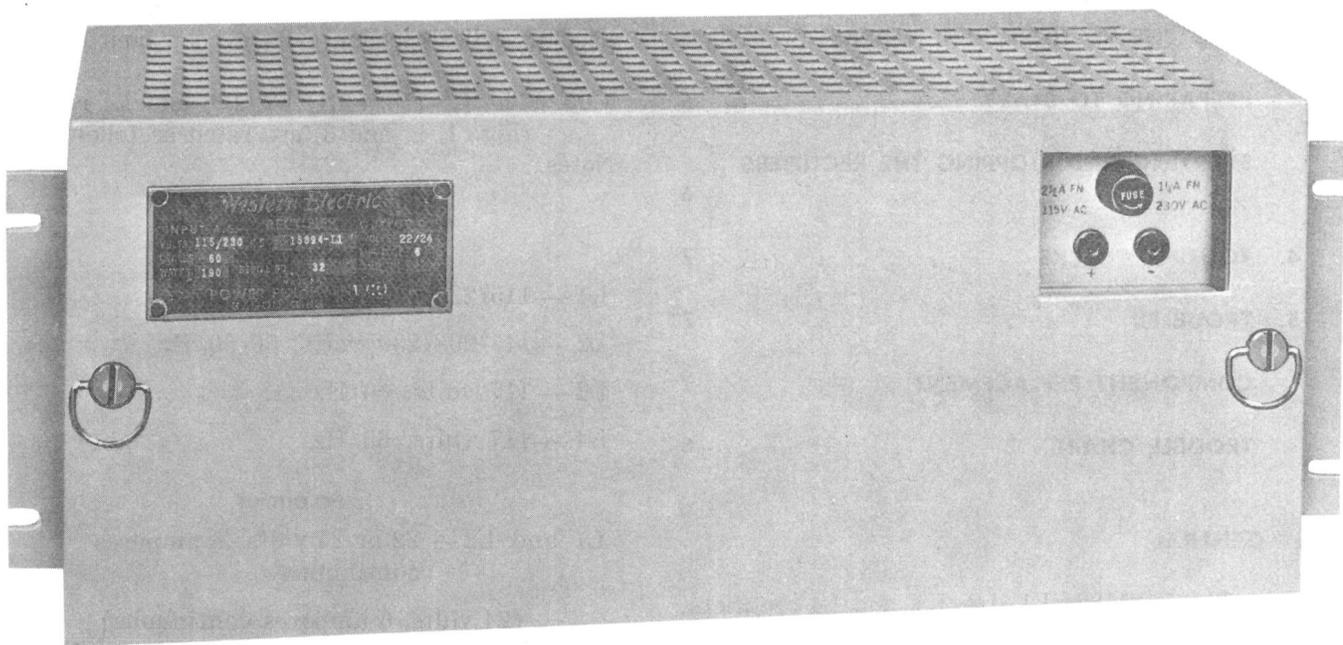

Fig. 1—KS-15894 L1 Rectifier
1.03 The KS-15894 L1, L2, L3, and L4 rectifiers (Fig. 1, 2, and 3) are rated as follows. See Notes.